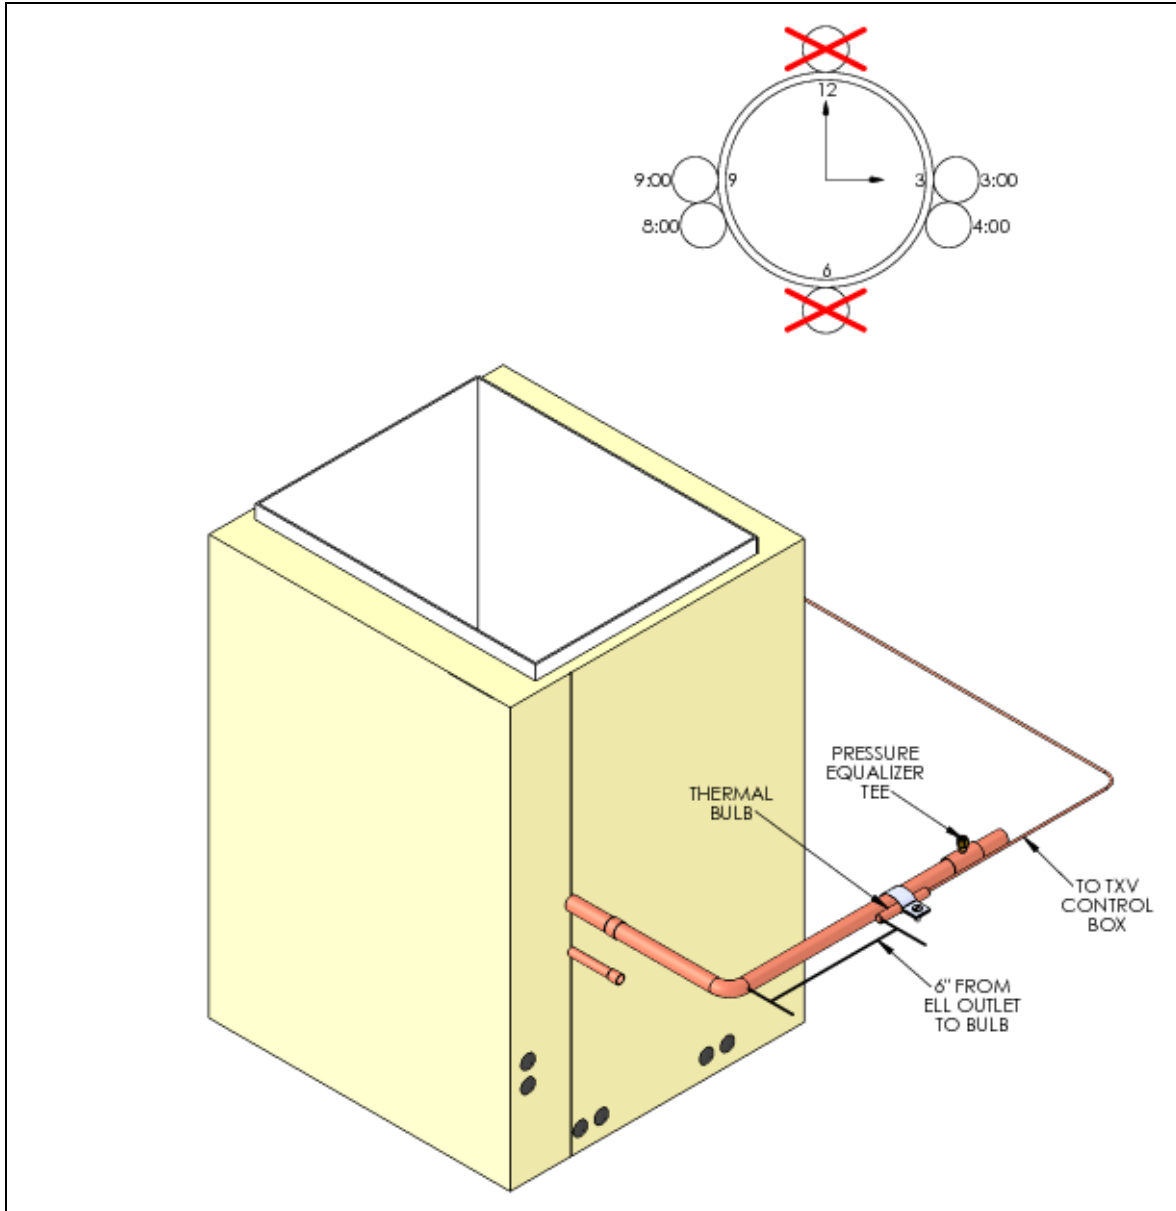

Figure 13. Thermal Bulb Positioning
Step 3: The **Thermal Bulb must be positioned and** clamped to the suction tube as shown in the example illustrated in Figure 13. The **Thermal Bulb and suction tube must be horizontal** regardless of the cased coil application (vertical or horizontal).
The Thermal Bulb must be positioned at the 3:00, 4:00, 8:00 or 9:00 positions on the suction tube, as illustrated in Figure 13.